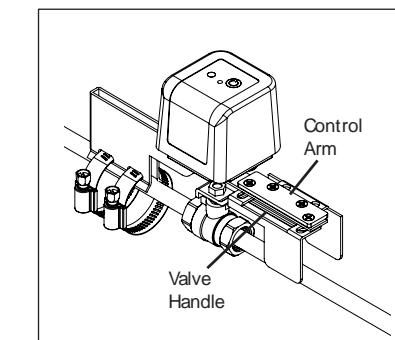

Figure 4
4. Make sure both the ball valve and the Water Main Shut-Off are in the “open” position (where the handle is in line with the pipe, not at a right angle to it,) and slide the CONTROL ARM around the valve's handle (fig 4.)